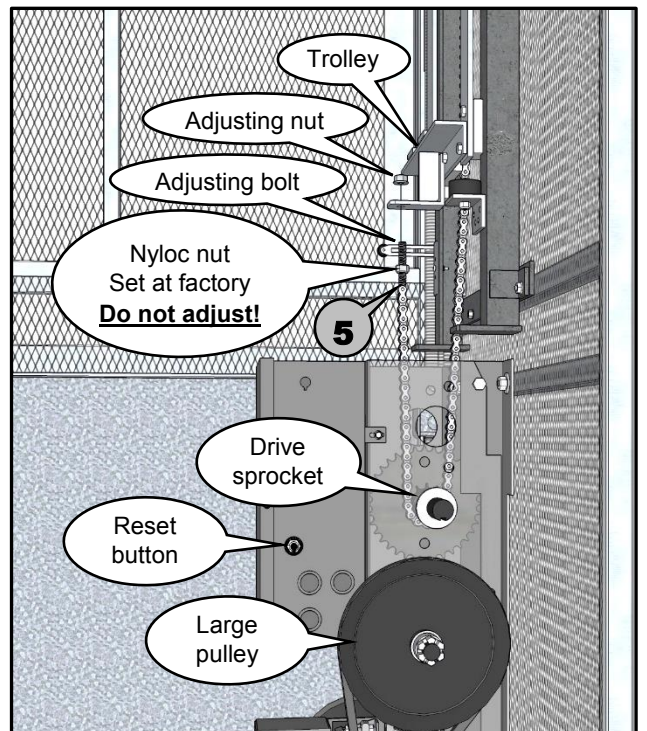

Figure 12
- 5** The other end of the chain should hang down behind the trolley and be placed around the drive sprocket of the motor. Then insert the threaded adjusting bolt, on the end of the chain, into the hole on the bottom of the trolley, where the adjusting nut is tied on, and use the adjusting nut to secure the adjusting bolt to the trolley. Use a blade screwdriver or needle nose pliers to hold chain from twisting and tighten adjusting nut until Nyloc nut is tightly seated against trolley. **Do not adjust Nyloc!** (see Figure 12)
NOTE: If the adjusting bolt won't reach, turn large pulley (see Figure 12) to take up any slack in the chain.
- 7** Cut black plastic tie, next to the drive sprocket, off. (see Figure 12, for sprocket location)